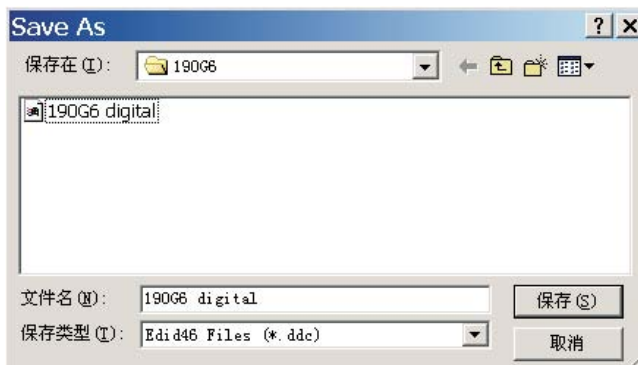

Fig.42
1. Click  (Save) icon (or click "file"-> "save as") from the tool bar and give a file name as shown in Fig. 42.